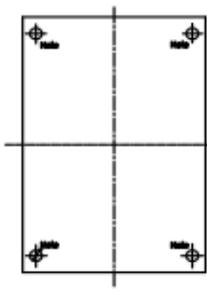

Figure 2-8 Drill Template
1. Attach the drill template (supplied) and then drill the screw holes and the cable hole in the ceiling, as shown in Figure 2-8.